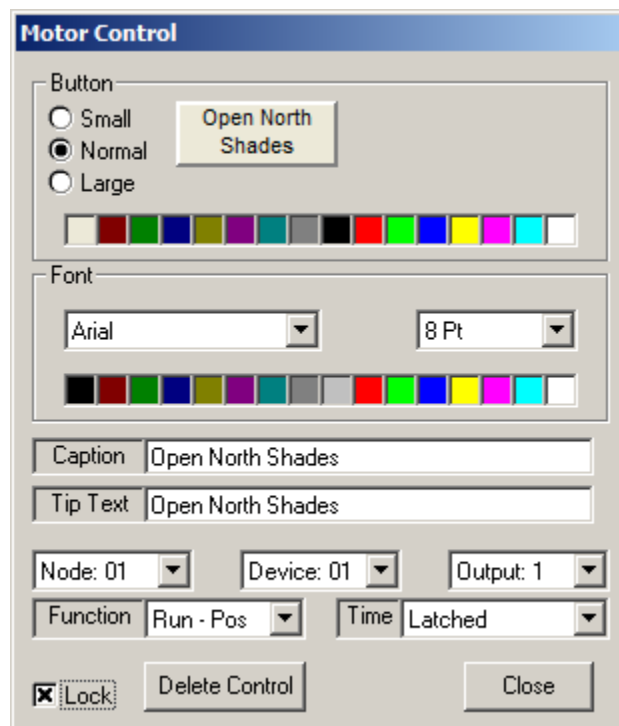

Figure 2.12 Defining a Motor Control
3. Right click on the new Insite Motor Control button to begin defining its appearance and control as shown in figure 2.12.